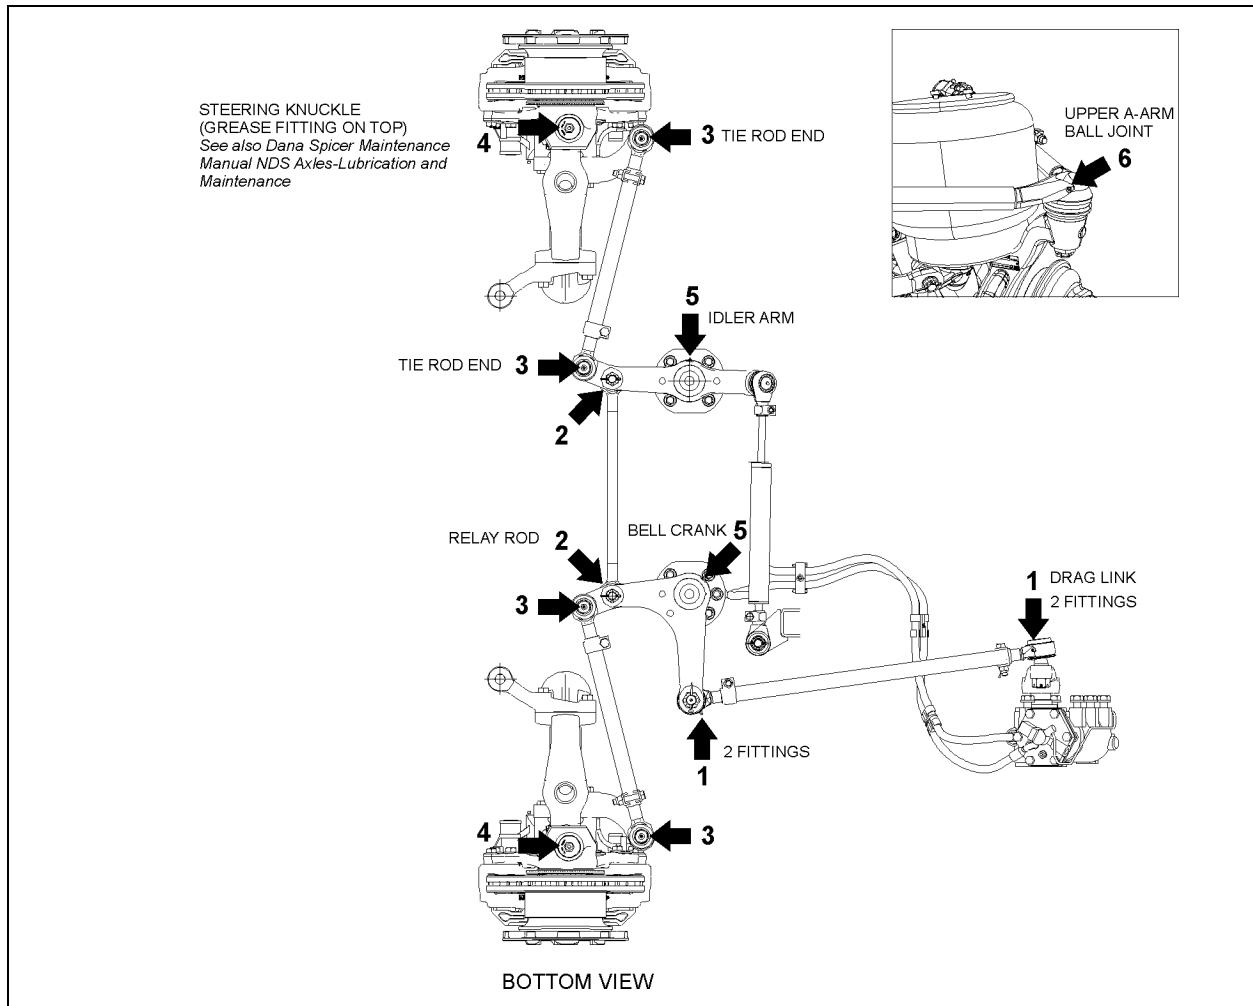

FIGURE 19: LUBRICATION FITTINGS LOCATION
11. Unscrew nut until bell crank or idler arm starts to turn with the application of 1 to 3 lbf load as shown on figure 19.